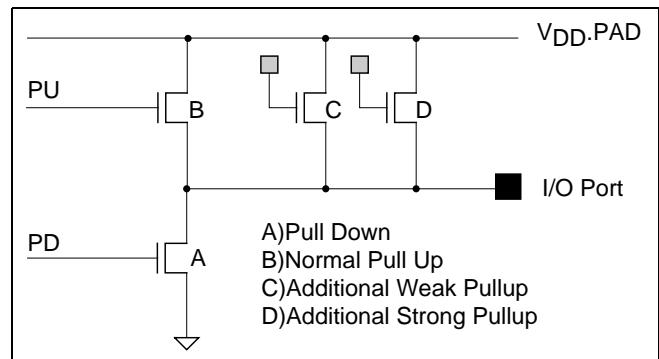

**Figure 4. Programmable I/O Port**
Each signal line in the Switch Matrix is connected to a programmable I/O Port. The functional attributes of individual I/O Ports can be programmed independently. The I/O Port attributes include its signal direction (in, out or bidirectional), data flow mode (flow-through, registered or latched), and pull-up current. Figure 4 shows the structure of the programmable I/O Port. The sources for the four control signals: clock (CLK), clock enable (CKE), input enable (IE), and output enable ( $\overline{OE}$ ) are also programmable and are described later in the section "I/O Control Signals."